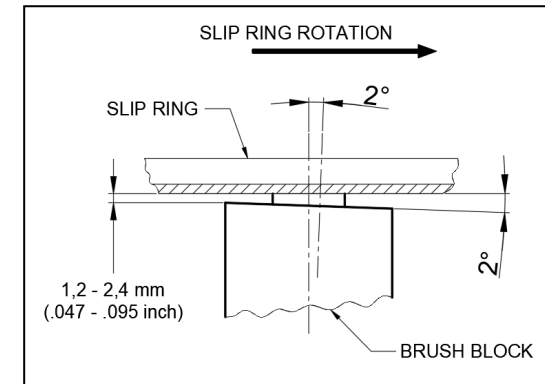

FIGURE 5-16
- Check the distance and angular location of the brush block against the slip ring. The distance between brush block and slip ring must be 1,2 to 2,4 mm (.047 to .095 inch) and brush block should be angled of 2 degrees from perpendicular of the copper rings, toward the direction of slip ring rotation (figure 5-16).